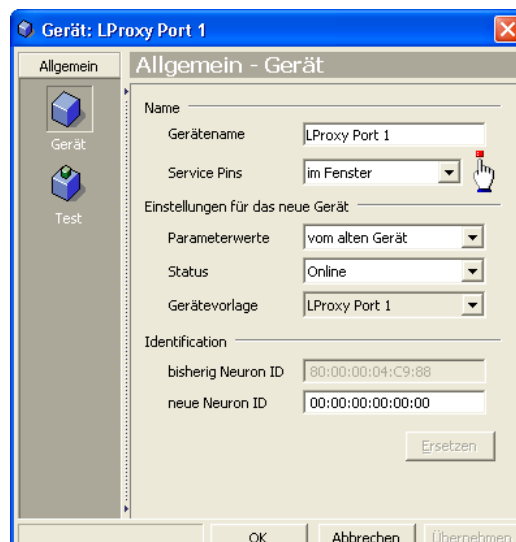

Figure 100: Device replacement dialog in Alex.
2. This opens the device replacement dialog box (see Figure 100).